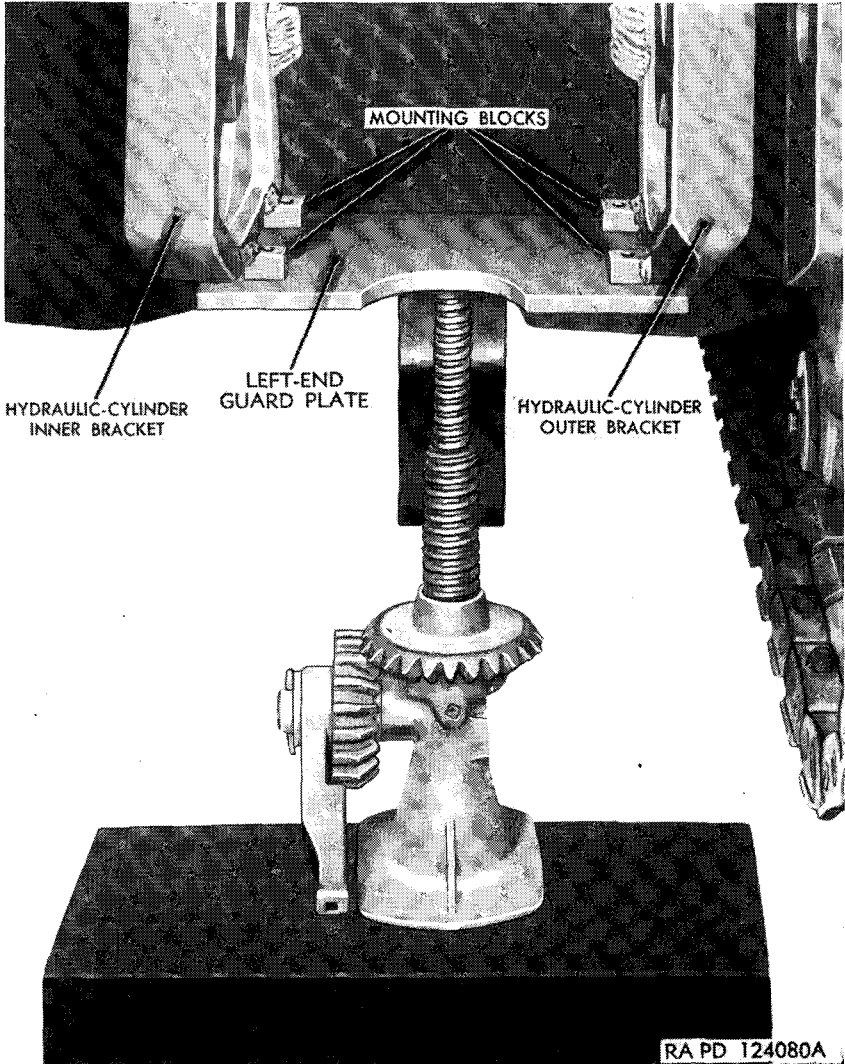

Figure 11. Using jack to hold hydraulic piping left-end guard plate to locate mounting blocks.
c. Position one end plate up against the under sides of the right hydraulic-cylinder inner and outer brackets (fig. 11) with the cutaway edge of the plate at front, and the back edge of the plate flush against the vehicle hull.
Note. The plate is just long enough to reach from approximately the center of the inner bracket to approximately the center of the inner half of the outer bracket. Use an automotive-type jack to hold the plate in position (fig. 11). The outer sides of the four mounting blocks will be pressed against the adjacent brackets when the plate is properly located.